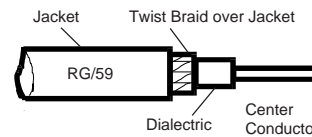

Figure 3B
**STEP 6.** Push back and twist the braid around the Dielectric until it butts against the cable jacket. See Figure 3B.